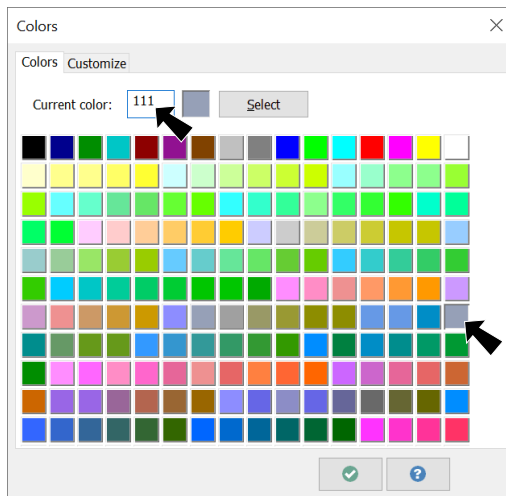

Fig. 7
Step 3. In the Color dialog box key-in **111** for ID number in the current color text box, **Fig. 7**. Click OK .